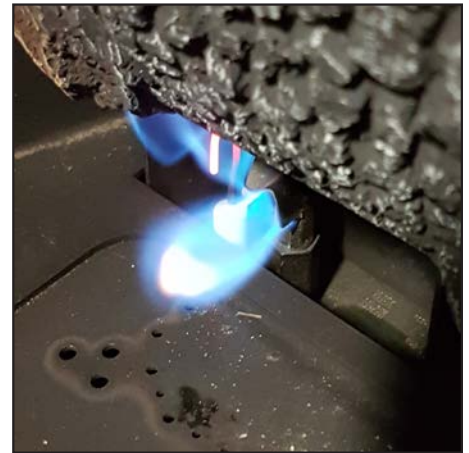

Figure 27. Correct Pilot
8. Reinstall the burner, tray, log set, and glass door. Also refer to SECONDARY INSTALLATION - LOG SET INSTALLATION in your Owner's Manual. When re-installing the burner, ensure that the burner to pilot hood and shield relationship is similar to what is shown in Figure 27.
12. Relight the pilot and confirm the flame properly covers the flame sensor (see Figure 27). Should the pilot require adjustment, turn the adjustment screw (figure 49, page 38) clockwise to decrease or counterclockwise to increase until the correct flame is achieved.